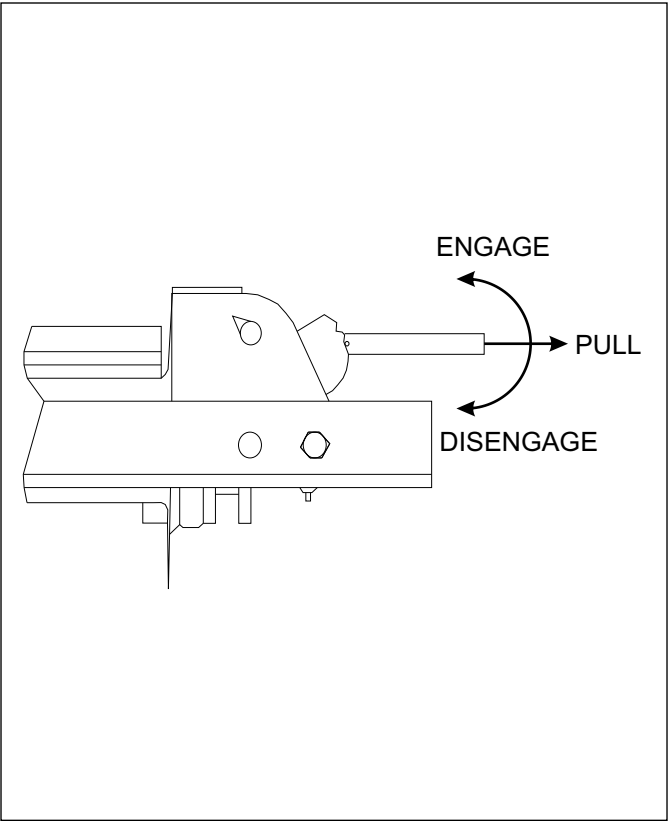

Figure 3-10: 12,000 LB. Winch Manual Clutch
1. The Winch Clutch handle (**See Figure 3-10 and 3-11**) is located on the right or curb-side end of the winch assembly. The function of the winch clutch handle is to engage or disengage the winch, allowing it to respond to the Winch Hydraulic lever.